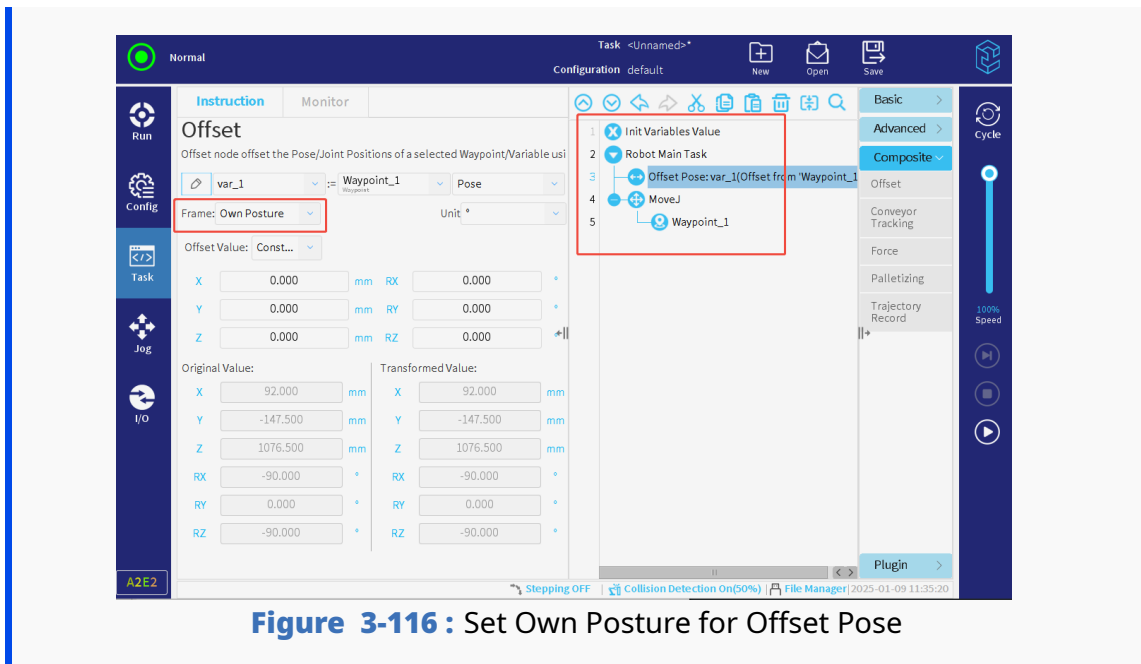

Figure 3-116 : Set Own Posture for Offset Pose
- Since this coordinate system is nearly same to the robot's real-time tool coordinate system at this time, it only needs to select "Own Posture", without restricting the location of the offset node. The program will directly perform offset operation according to the coordinate system of the preset or the actual pose, as shown in **Figure 3-116** .